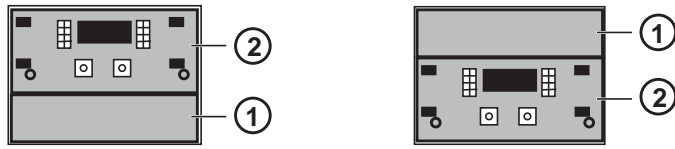

Figure 1. Installing the Mini Fill Panel in front of the Joystick Module (at left) or behind the module (at right)
- If you purchased a Mini Fill Panel (“1” in Figure 1) place it in the chassis first, then place the Joystick Module (“2” in Figure 1) behind it. Optionally, install the MJM closest to the Bolster and install the Mini Fill Panel behind it.